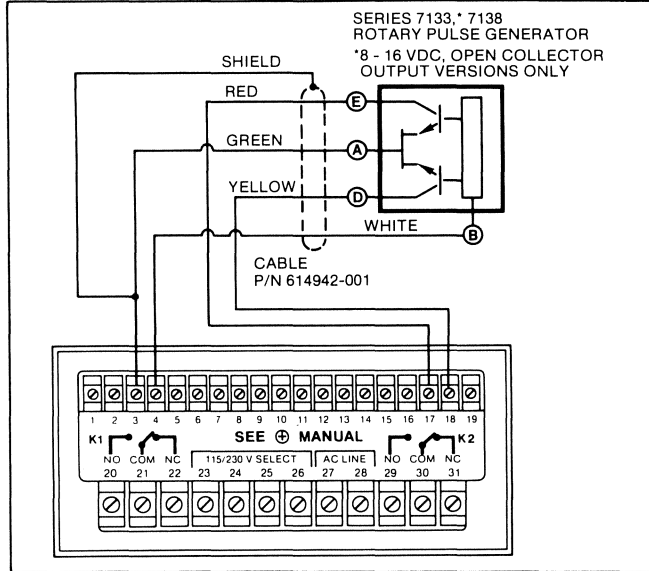

Figure 4-13. Connection of a Veeder-Root Series 7133, 7138 Bidirectional Rotary Pulse Generator.
- c. For connection of a Veeder-Root Series 7133, 7138 Bidirectional Rotary Pulse Generator, refer to Figure 4-13. Quadrature input method must be programmed per Section 5.